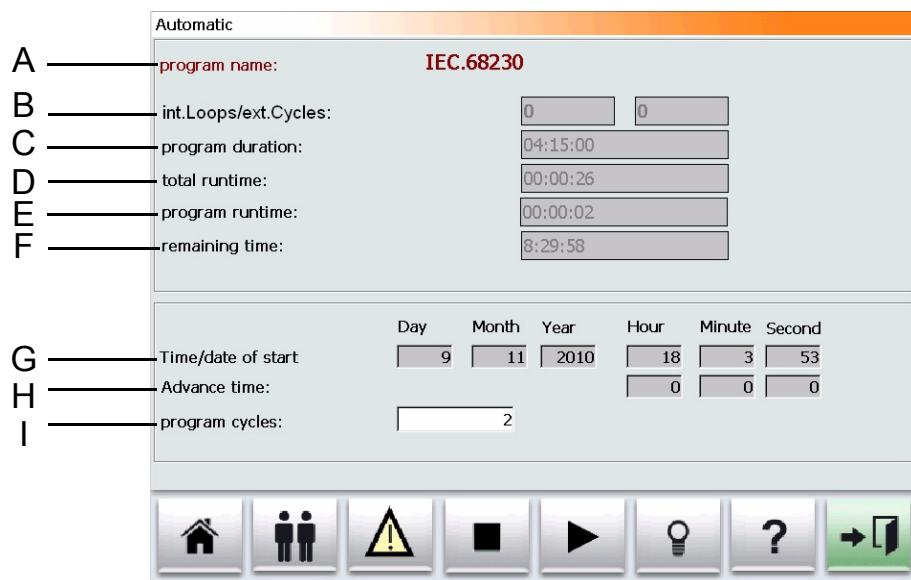

Fig. 4-11
- refer to Chapter 4.4 , Fig. 4-11 (page 51)